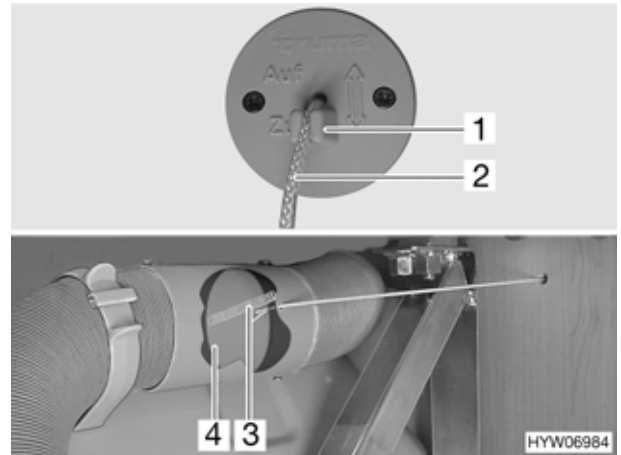

Fig. 119 Branch block
The hot air distribution to the alcoves can be opened or closed by the branch block (Fig. 119).
- Pull out the string (Fig. 119,2) until you feel slight resistance and then secure the string in the clamp (Fig. 119,1).
The flap (Fig. 119,4) is closed.
- Release the string (Fig. 119,2) from the clamp (Fig. 119,1) and feed back slowly.
The flap (Fig. 119,4) is opened by the spring (Fig. 119,3).